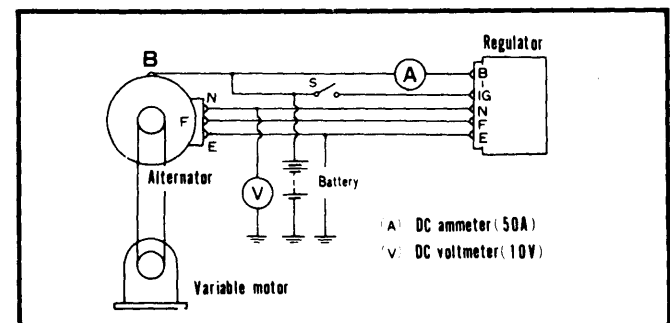

Fig. 4 Test Circuit for Relay-Ammeter Type
**Ammeter Type** — Connect test meters as shown in Fig. 4 thru 6. Increase alternator RPM gradually and note voltage. Voltage should be 4.5-5.8 volts. If necessary, adjust voltage by bending adjusting arm.